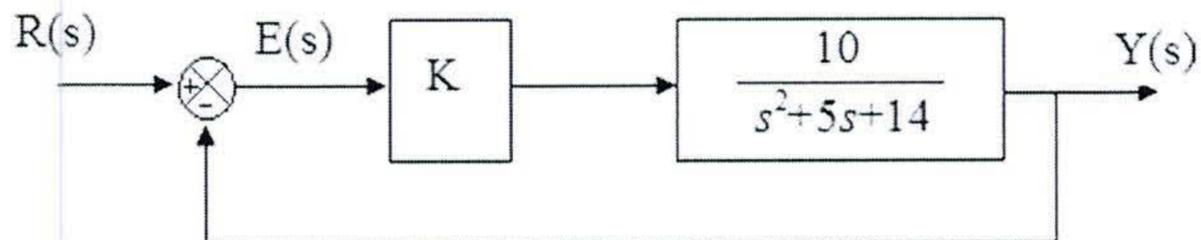

Figure Q1 Control System
- (c) Given the system in Figure Q1, where $R(s)$ is the input signal, $E(s)$ is the error signal and $Y(s)$ is the output signal.